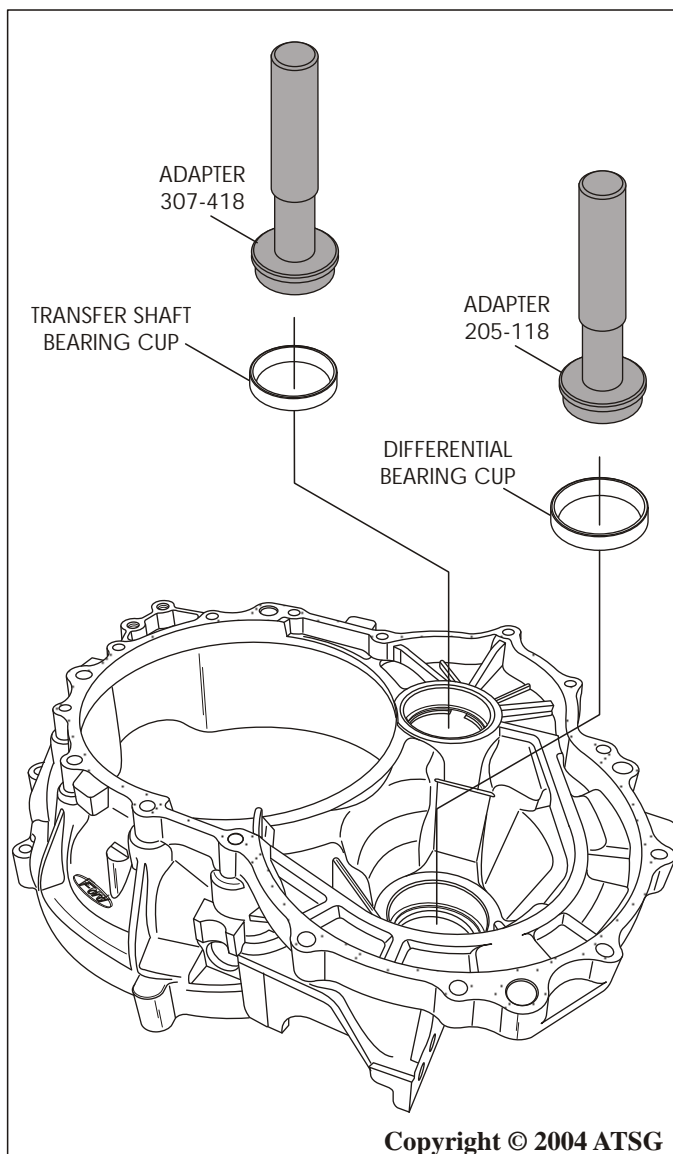

Figure 147
68. Install the differential bearing cup using the proper adapter, as shown in Figure 147.
69. Install the transfer shaft bearing cup using the proper adapter, as shown in Figure 147.